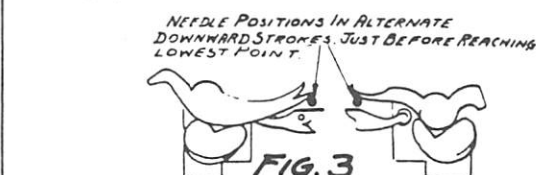
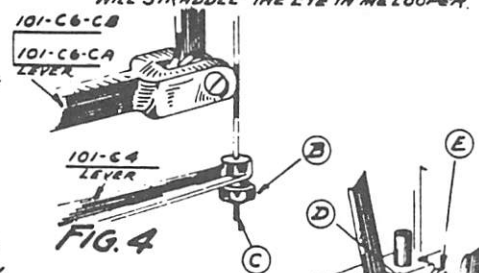
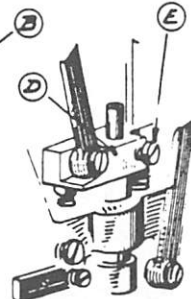

FIG. 3
FIG. 4
FIG. 5
THE POSITION OF THE NEEDLE AS THE LOOPERS AND SPREADERS ARE BACKING AWAY IS AS SHOWN IN FIG. 3. IT IS IMPORTANT THAT THE SPACE BETWEEN THE NEEDLE AND SPREADERS IS EQUAL FOR EACH SPREADER - THIS ADJUSTMENT CAN BE MADE WITH NUT (B) ON CONNECTION (C) FIG. 4 - NOTE WHEN THE LIMIT OF THE THREAD (C) IS REACHED, AN ADDITIONAL ADJUSTMENT IS PROVIDED AS SHOWN IN FIG. 5 - LOOSEN SCREW (E) AND RAISE OR LOWER CROSSHEAD (D) ADJUST AGAIN AS IN FIG. 4